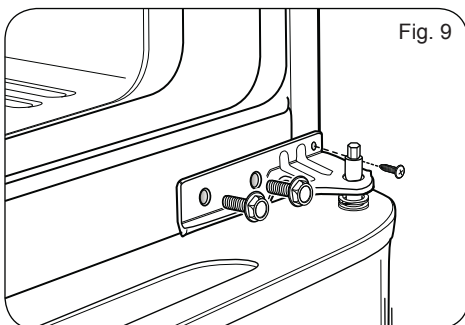

Fig. 9
- Use the two bolts and the screw to refasten the middle hinge with the refrigerator housing. See Figure 9.